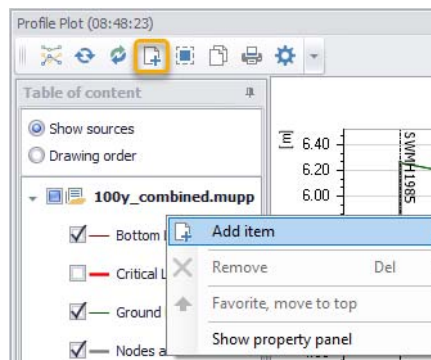

Figure 20.36 The 'Add item' tool on the Profile Plot window
- Add simulation results to a profile plot using the 'Add item' button on the Profile Plot window (Figure 20.36.). The option is also offered from the local context menu (i.e. right-click) on the left panel of the profile plot form.